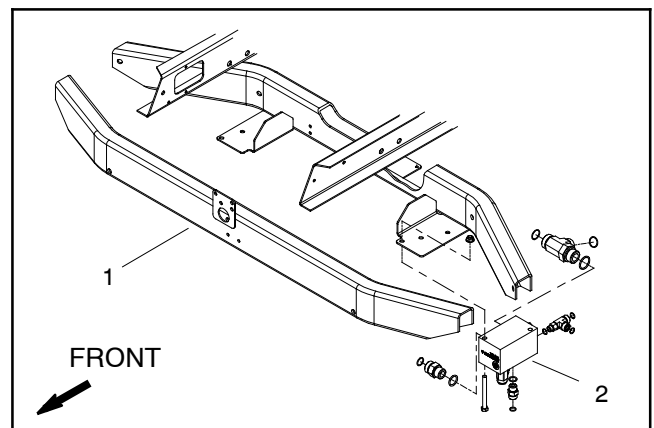
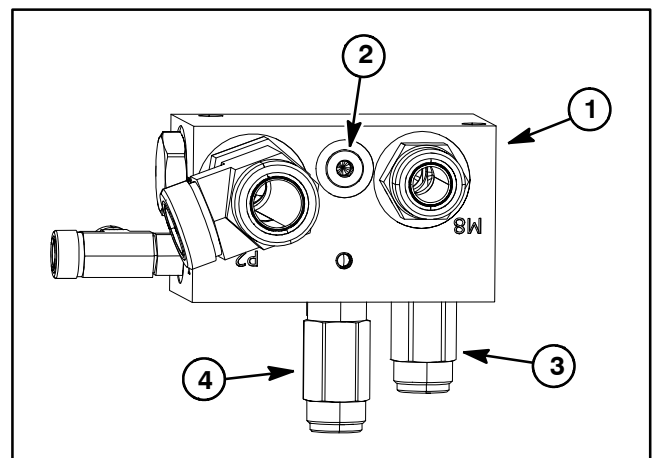

Figure 41
Figure 42
1. Make sure hydraulic oil is at normal operating temperature by operating the machine for approximately ten (10) minutes. Make sure the hydraulic reservoir is full.
3. Locate rear traction manifold that is attached to the front frame next to the left side front wheel (Fig. 41). Remove #6 zero leak plug on the inside of rear traction manifold and install diagnostic fitting (Toro part number 59-7410) into manifold port.
6. Sit on seat, apply brakes fully and slowly depress the traction pedal in the reverse direction. While pushing traction pedal, carefully monitor the pressure gauge to identify the opening pressure of the pressure reducing (PR) valve:
**GAUGE READING TO BE 420 to 470 PSI (29 to 32 bar) when the pressure reducing (PR) valve opens.**
8. The pressure reducing valve (PR) is located on the bottom of the rear traction manifold (Fig. 42). If test pressure is incorrect, adjust pressure reducing valve (PR) (see Adjust Control Manifold Relief Valves in the Adjustments section of this chapter). Recheck pressure reducing valve pressure after any adjustment.
**NOTE:** The rear traction circuit relief valve (RV) pressure test uses the same pressure gauge position as used to measure traction circuit pressure reducing valve (PR) pressure. If necessary, conduct the rear traction circuit relief valve (RV) pressure test before removing pressure gauge from rear traction manifold.